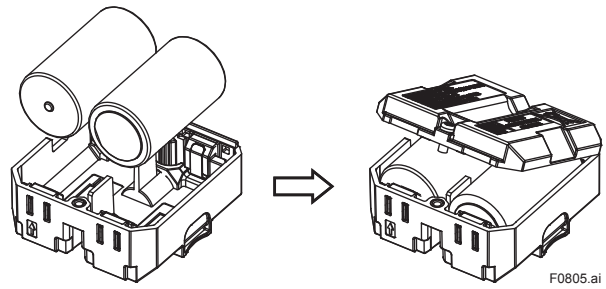

Figure 8.4 Assembling the Battery Pack
2. As shown in Figure 8.4, engage the hooks on the opposite side of the screw.